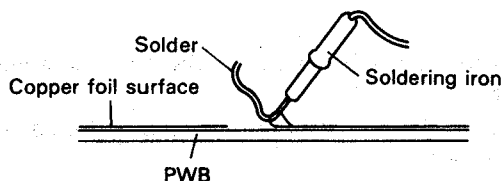

Figure 55.
1. Temporarily solder one terminal of the chip on the copper foil surface. See Fig. 55.